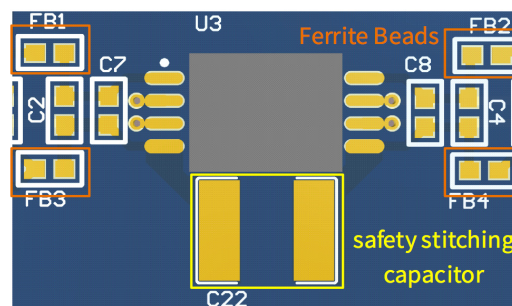

Figure 5. Layout example for EMI optimization
- To suppress radiation on the power lines, place Ferrite Beads respectively in series with the line of VDD and GND for filter as is shown in Figure 5. The ferrite Beads, together with decoupling capacitors, can filter and isolate noise well. In the layout area, the ferrite beads need to effectively separate the chip layout area from peripheral circuit without overlap in different PCB layers.
- Add a safety stitching Y capacitor (shown in Figure 5) between GND1 and GND2 as close as possible to provide a return path for common-mode noise through the isolation barrier. Larger capacitance means smaller high-frequency impedance and is better for current returning. The leakage current and withstand voltage should also be considered when selecting a safety rated capacitor. In PCB design, pay attention to minimizing the parasitic inductance and parasitic impedance of the capacitor connection line.